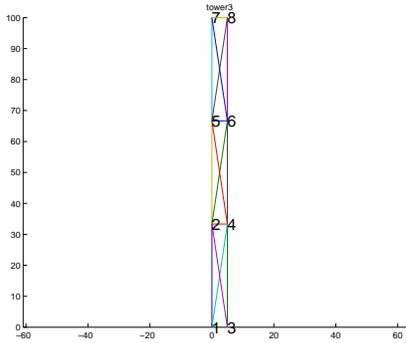
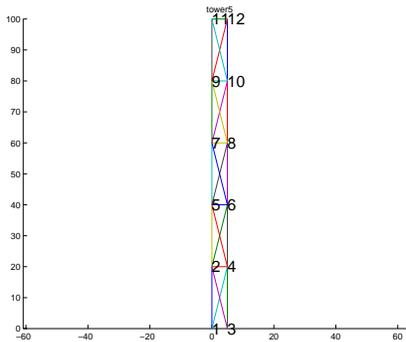

Figure 2: Geometry of a tower with 3 segments with labeled nodes.
Figure 3: Geometry of a tower with 5 segments with labeled nodes.
- generates finer and finer meshed towers such as that shown in Figure 2 and Figure 3,